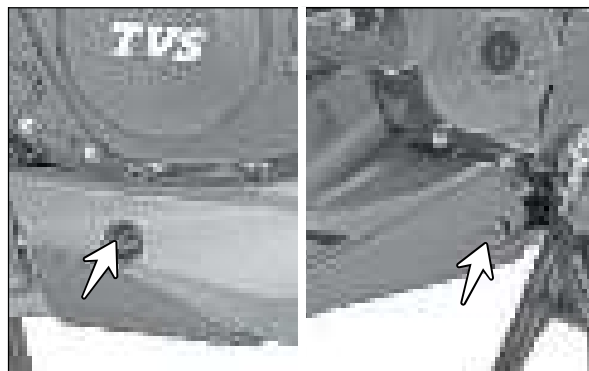

Fig. 3.34
- Remove the CRR pan head screw (M6x20 - 2 Nos.) along with plain washers from the LH and RH mounting of engine guard. (Fig. 3.34)